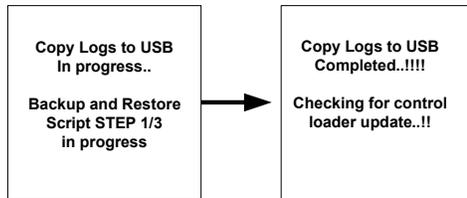

Figure 1-2 Copy Logs to USB completed screen
8. After successful boot up, inverter LCD display should show below message as shown in Figure 1-2 on page 1–5 and Grid LED and Fault LED should blink ON and OFF.